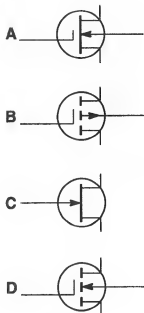

Figure 3-88
16. Which schematic symbol shown in Figure 3-88 represents a junction field effect transistor? _____
17. Which schematic symbol shown in Figure 3-88 represents an enhancement mode N-channel MOSFET? _____